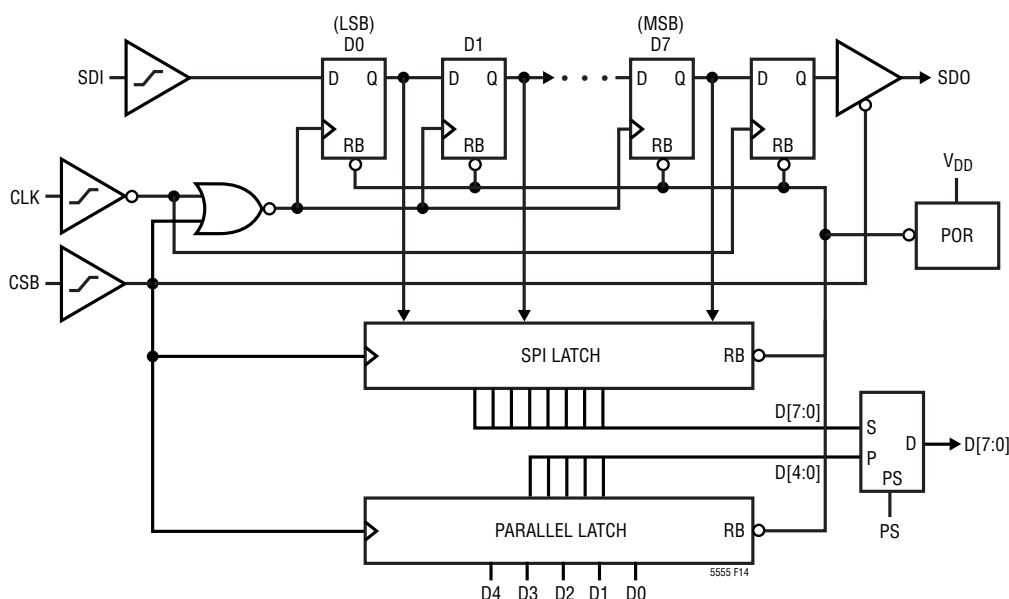
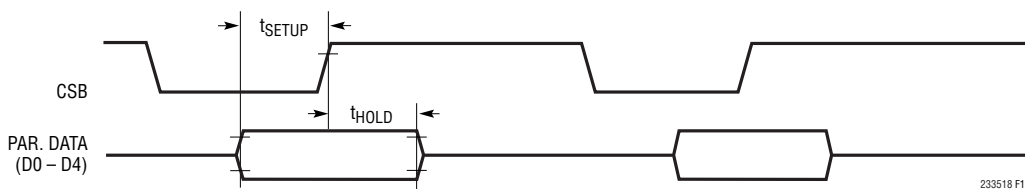

Figure 14. SPI Block Diagram
Figure 16. Parallel Timing Diagram
A block diagram of the SPI is shown in Figure 14. As shown, it is an 8-bit double-buffered FIFO slave architecture. Logic levels for the digital inputs and SDO output are 1.8V to 3.3V CMOS compatible, determined by the supply voltage on the VDD pin. An internal POR (power-on-reset) connected to the VDD pin, resets all 8-bits to logic 0 at power-up, or when VDD drops below 0.5V and then rises back above 1.2V. The POR requires approximately 100μs to reset the registers.
The IF gain can be programmed directly using the parallel input pins (pins 17 – 21) when the Parallel Select pin (PS) is set high. (See the Pin Functions section for descriptions of the parallel data input pins.) As illustrated in Figure 14, the parallel data input pins are connected to an internal data latch and the CSB pin functions as the latch enable. When the CSB input transitions from logic low to high, the data present at pins 17 – 21 are latched in and take effect. See Figure 16 for timing details.